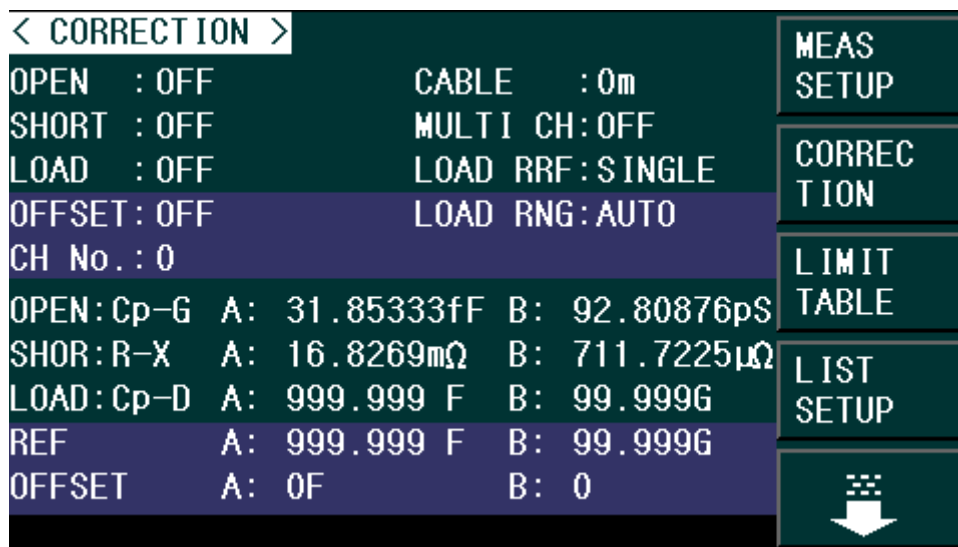

Figure 3-6 Correction Screen
Step 2: Press the CORRECTION softkey. The CORRECTION display page as shown in Figure 3-6 appears.